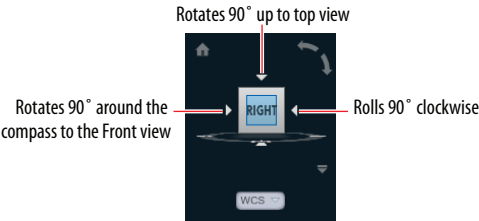

FIGURE 16.11 Additional ViewCube controls
3. The ViewCube rotates with the view change. Hover the cursor over each of the elements on the right face and observe there are four corners, four edges, plus the right face itself that highlights in blue. In addition, there are four arrows facing the cube and two curved arrows in the upper right. Each of these interface elements rotates the view in a specific direction, as indicated in Figure 16.11.